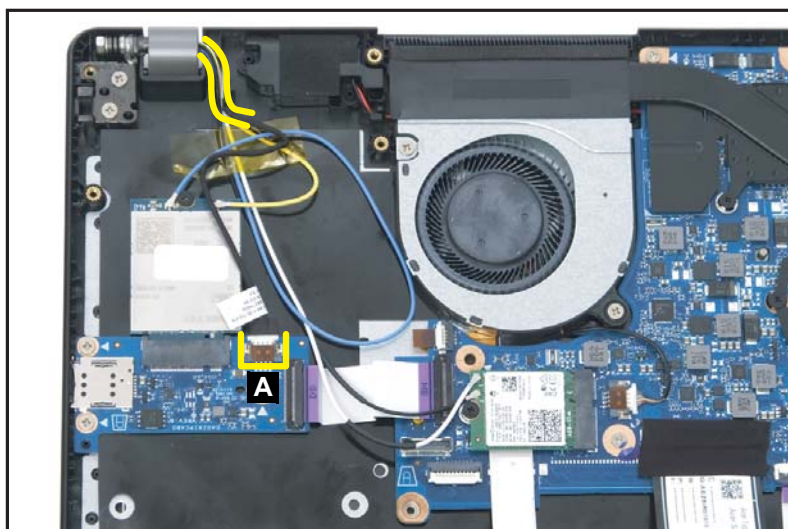

Figure 1-31. LCD Module Removal
1. Disconnect the tuner antenna cable from the LTE board connector (A) (Figure 1-31).
2. Unroute the tuner antenna cable from the guide on the top assembly (Figure 1-31).